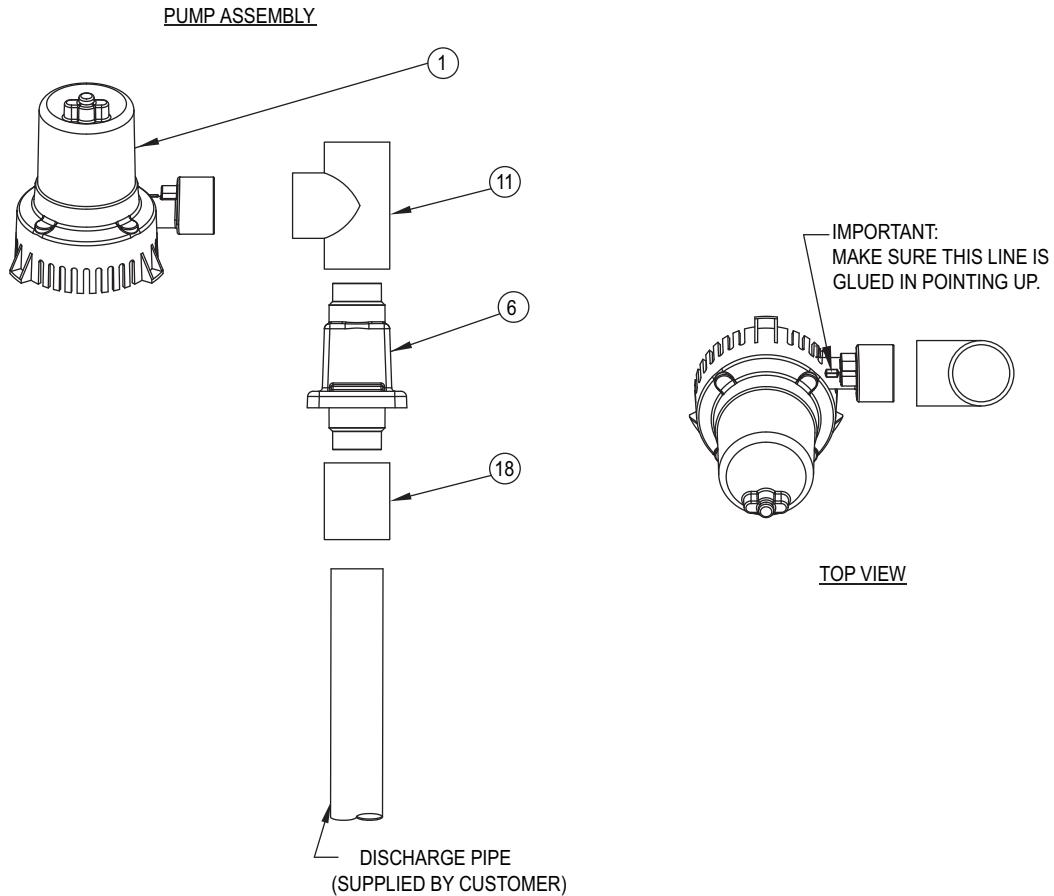

FIGURE 4
8. Assemble discharge fittings per figure 4. Note: Pump must be glued into tee fitting on a 30° angle to avoid air locking (see figure 4). Rotate pump while gluing until the line on the discharge is facing up. Use a commercial grade of PVC cleaner and solvent cement (not furnished with kit) on the socket joints.